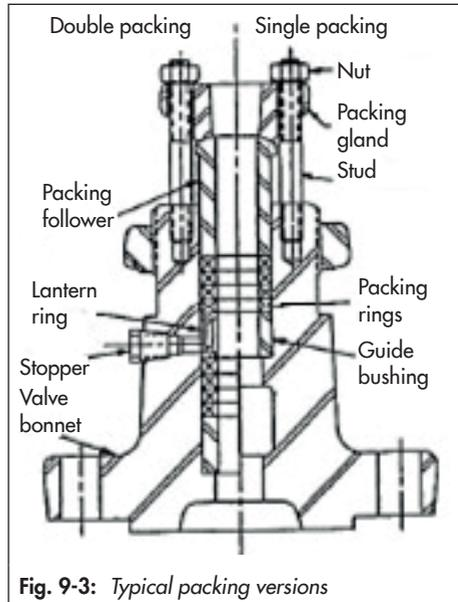

Fig. 9-3: Typical packing versions
9. Carefully slide the packing parts (especially in the threaded section) over the plug stem into the packing chamber using a suitable tool. Observe the proper sequence (see Fig. 9-3).
ing a suitable tool. Observe the proper sequence (see Fig. 9-3).
22. Carefully slide the packing parts (especially in the threaded section) over the plug stem into the packing chamber using a suitable tool. Observe the proper sequence (see Fig. 9-3).